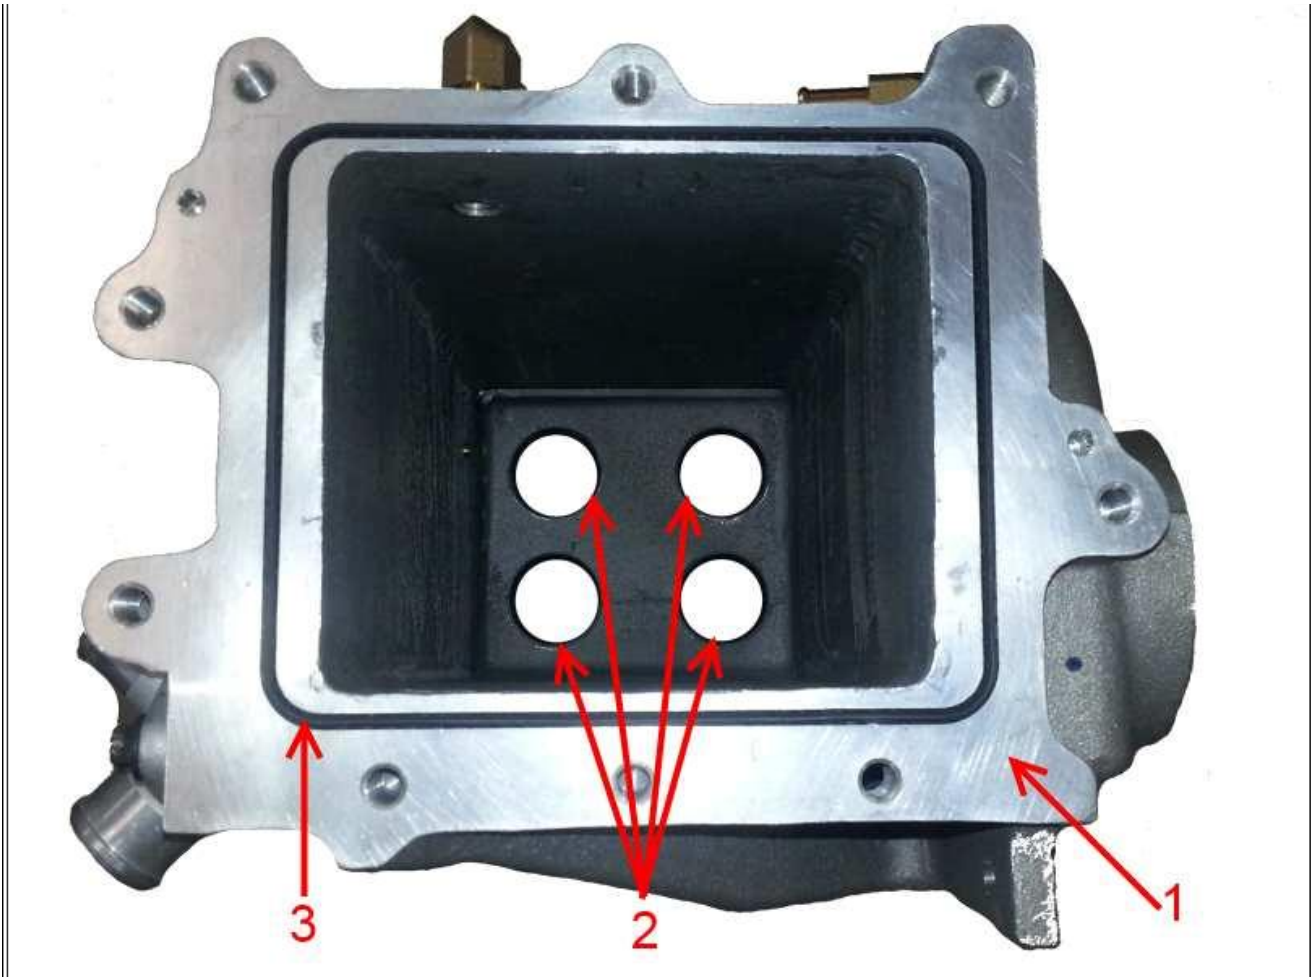

Figure 14: Low Temp Cooler Housing Face
31. Remove the housing seal and discard (**Figure 14**, Item 3)
32. Use a seal pick to remove the four o-rings at the housing inlet and discard (**Figure 14**, Item 2).